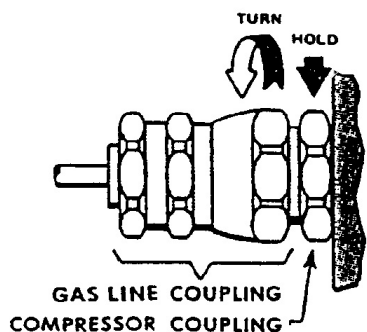

Figure 2 Break Gas Line Connection from Compressor
1. Always use two wrenches. Use one wrench to hold the compressor coupling. Use the second wrench on the gas line coupling nut to break the connection. See Figure 2.